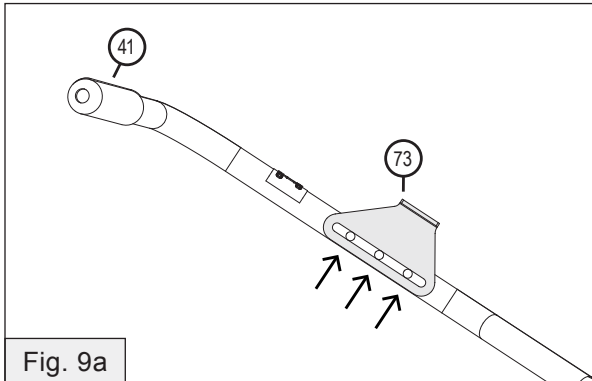

Fig. 9a
- Leave the center hole open and run two hex head bolts (44) through the outer two holes of the Handle Weldment (41).
*Bolts should also pass through the Control Lever Stop (73) & two 1/4" washers (43).*
- Add two Nylon Lock Nuts (3) on the ends of the Bolt (44). Verify the Control Lever Stop (73) is centered (see Fig 9a) before tightening the Nuts (3) completely, securing everything in place.